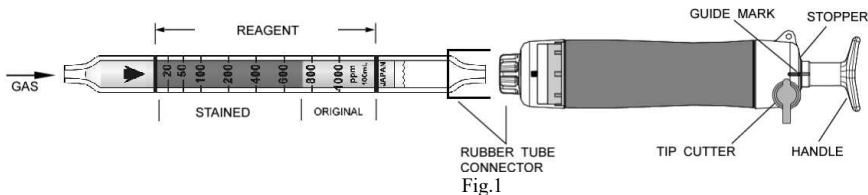

Fig.1
- ② Insert the detector tube into the aspirating pump securely as shown in Fig.1. (Arrow mark shall point to the pump.)
- ③ Align the guide marks on the shaft and stopper of the aspirating pump.
- ④ Pull the pump handle at a full stroke until it locks and wait for 1.5 minutes or until the completion of sampling is confirmed with the flow indicator of the pump. (See descriptions about the flow indicator in the instruction manual of the pump.)
- ⑤ On completion of sampling, read the scale at the maximum point of the stained layer.
- ① Temperature; Correct the tube reading by following temperature correction table.